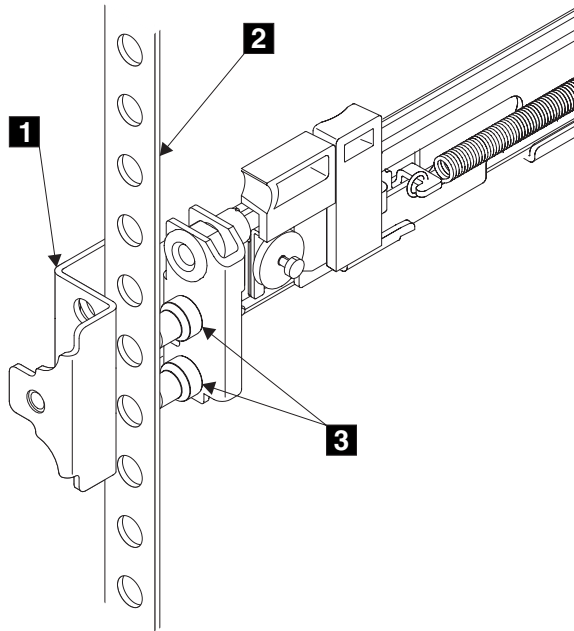

Figure 41. Installing the front end of the rail
6. Place the front end of the left rail in the rack cabinet. Align the top of the front bracket **1** (Figure 41 on page 46) with the required EIA marking that is